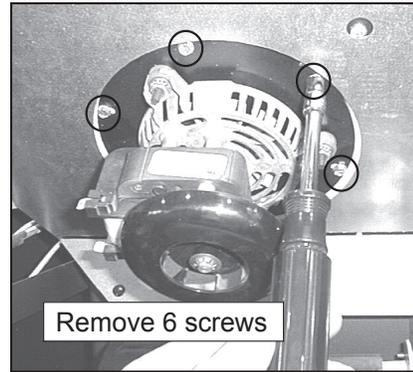

Figure 21.2
- h. Remove 6 screws using a flathead screwdriver or a 1/4" nut-driver. Retain screws for use on replacement blower. **Figure 21.2.**